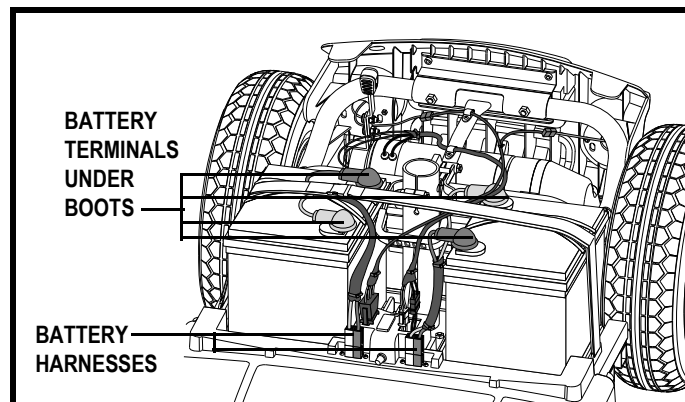

Figure 13. Battery Harnesses and Battery Cables
3. Disconnect the battery harness for each battery by pulling it straight up. See figure 13.